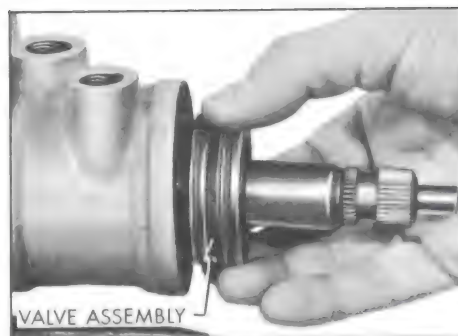
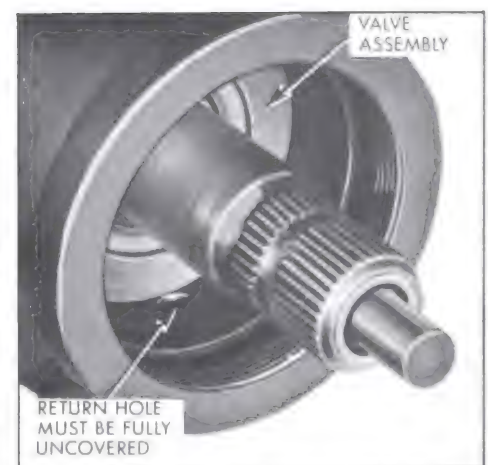

Figure 8-46—Inserting Valve Assembly in Housing
Figure 8-47—Valve Assembly Properly Installed in Housing
1. Align the narrow pin slot on the valve body with the valve body drive pin on the worm. Insert the valve assembly into the gear housing by pressing against the valve body with the finger tips. Do not press on stub shaft or torsion bar. See Figure 8-46. The return hole in the gear housing
should be fully visible when valve is assembled properly. See Figure 8-47.
2. Insert the valve assembly and worm in gear housing as an integral unit. Do not press on stub shaft or torsion bar. See Figure 8-46. Return hole in housing should be fully visible when valve and worm are properly installed. See Figure 8-47.